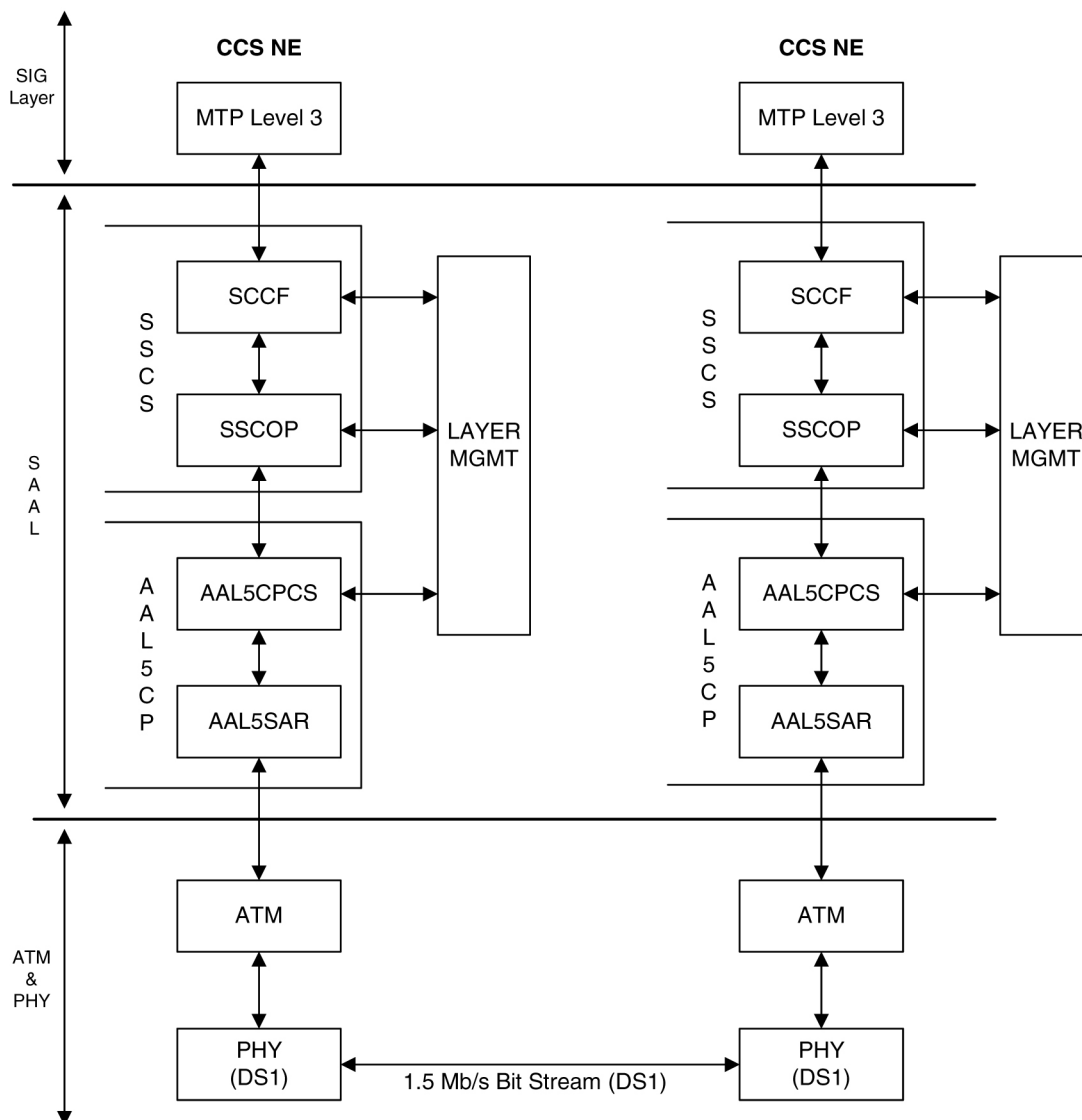

Figure 32: High-Speed Link Protocol Model for CCS Network Elements
Signaling data link functions (MTP-1) are provided by an appropriate physical layer in combination with the ATM layer, signaling link functions (MTP-2) are provided by the Signaling ATM Adaptation Layer (SAAL), and the signaling network functions are provided by MTP level 3. Figure 32: High-Speed Link Protocol Model for CCS Network Elements illustrates the high-speed link protocol model for CCS NEs.
- support for the DS1, ATM, and AAL5CP layers of the ATM high-speed signaling link protocol stack as indicated in Figure 32: High-Speed Link Protocol Model for CCS Network Elements.